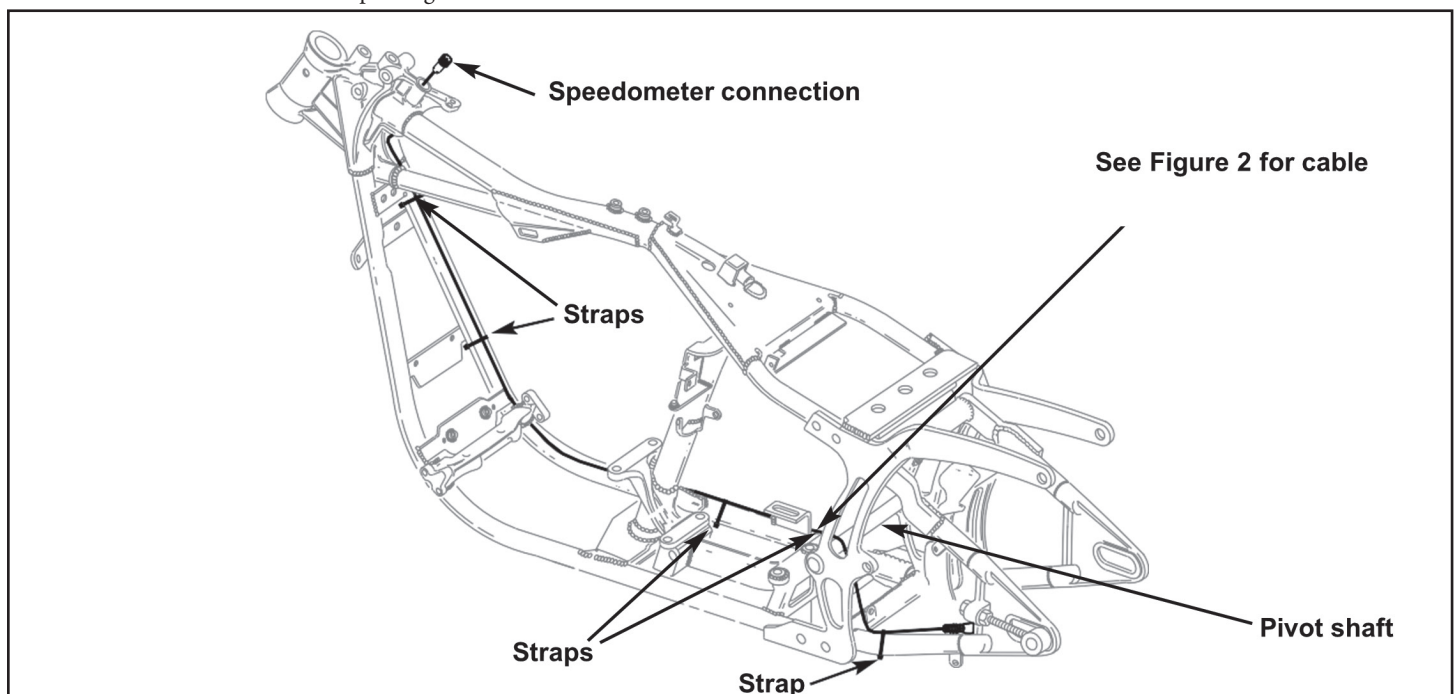

Figure 1. Routing Speedometer Cable
4. See Figure 1. Beginning at speedometer, route cable back to rear wheel as shown in illustration. Cable strap cable in place at locations shown. See Figure 2 for cable attachment point on frame. Slide boot over cable end.